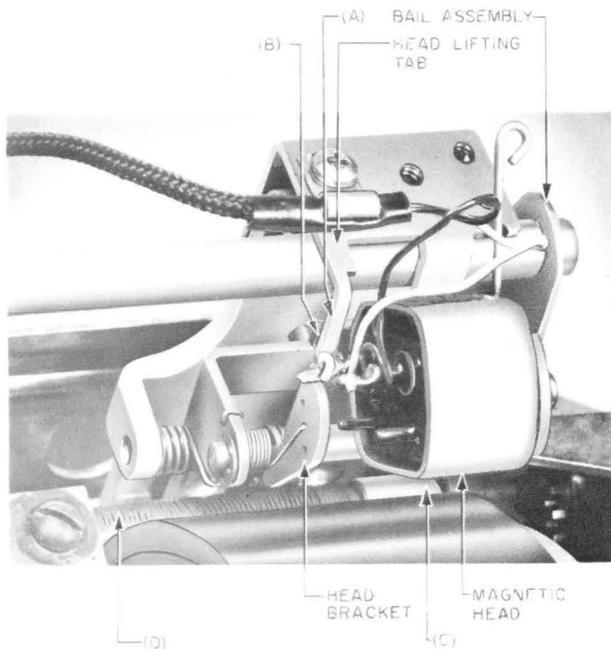

Fig. 4—Magnetic Head Lifting Tab Position (Shown in Unoperated Position)
- (b) **Magnetic Head:** The pole piece of the head (Fig. 4) shall be free of dust, wax, dirt, or any other foreign matter. Lift the head to its highest position, and observe the surface of the pole piece. Gauge by eye.